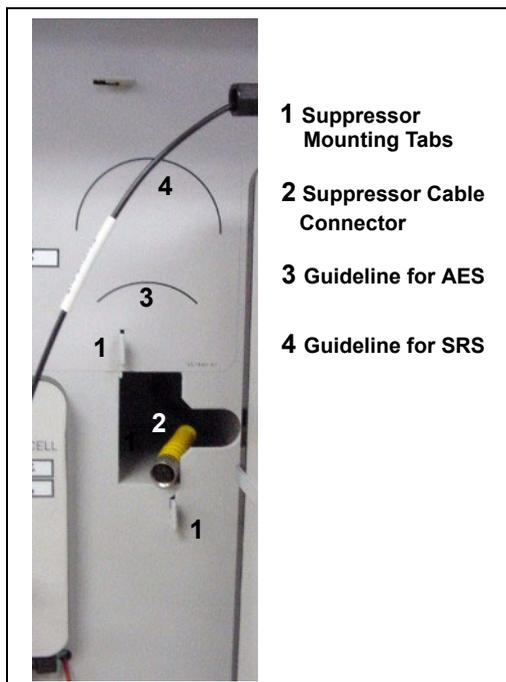

Figure 5-19. Suppressor Guidelines and Mounting Tabs on Component Panel
11. Align the top of the suppressor with the guide line printed on the component panel (see Figure 5-19) and align the slots on the rear of the suppressor with the tabs on the panel.